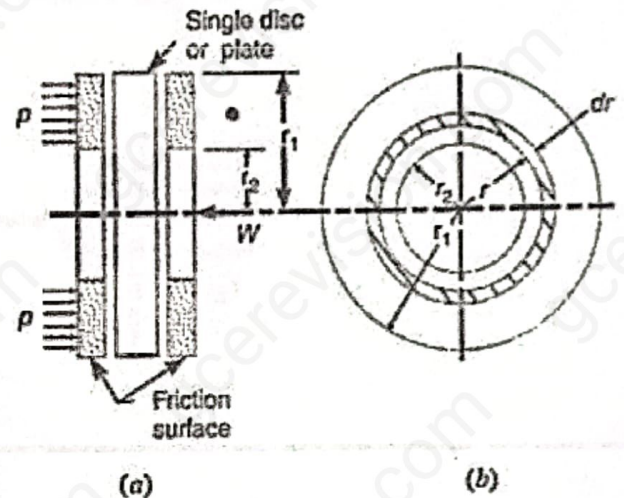

Figure 13.2
- d. Let's consider the single disc dry friction plate clutch system shown in figure 13. Let  $P$  in figure 13.2 be the intensity of the axial pressure with which the friction surfaces are held together,  $r_1$  and  $r_2$  the external and internal radii of the friction faces respectively and  $\mu$  the coefficient of friction.
- ii) Given that the area ( $A$ ) of the elementary ring of radius ( $r$ ) and thickness ( $dr$ ) in figure 13.2 b is  $A = 2\pi r dr$ , express the elementary axial or normal force  $\delta w$  in function of  $A$  and  $P$ . (1mark)
- iv) Express the total frictional torque ( $T$ ) acting on the clutch's friction surfaces from  $r_2$  to  $r_1$  in figure 13.2 above where ( $n$ ) represents the number of pairs of friction or contact surfaces. (2marks)